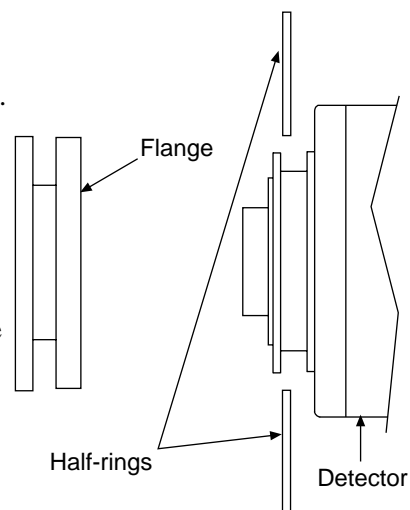

Figure 14. Type 1 Camera Adapter
1. Mount the flange to the camera using the two half-rings and the screws provided. Note that the tapered side of each half-ring faces the adapter. See Figure 14.